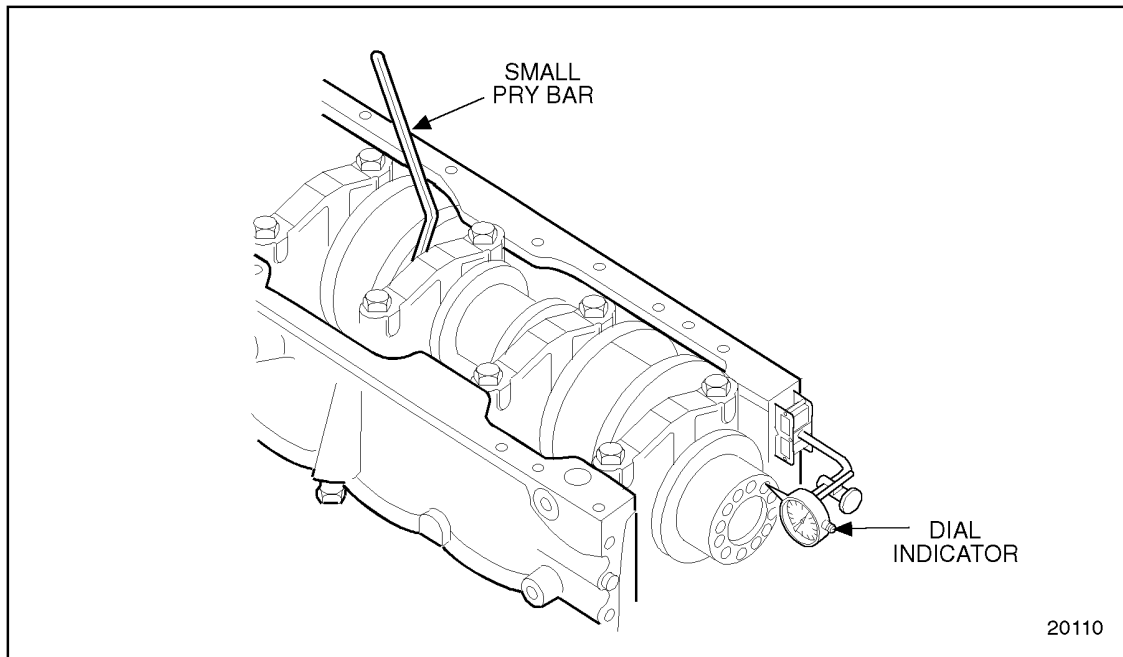

Figure 1-119 Measuring Crankshaft End Play
9. Install a dial indicator to the cylinder block. See Figure 1-119.
10. Check the crankshaft end by moving the crankshaft toward the gage with a small (less than 12 in., 0.3 m) pry bar. See Figure 1-119. Keep a constant pressure on the pry bar and zero the pointer on the dial indicator. Then, remove and insert the pry bar on the other side of the bearing cap. Force the crankshaft in the opposite direction and note the amount of end play on the dial. The end play should be 0.097-0.419 mm (0.004-0.017 in.). Insufficient